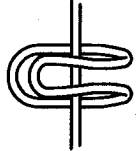

fig. 2
- Step 2 Pass one end of the loop over the line and back down through the opposite end of the loop (fig. 2 & 3).